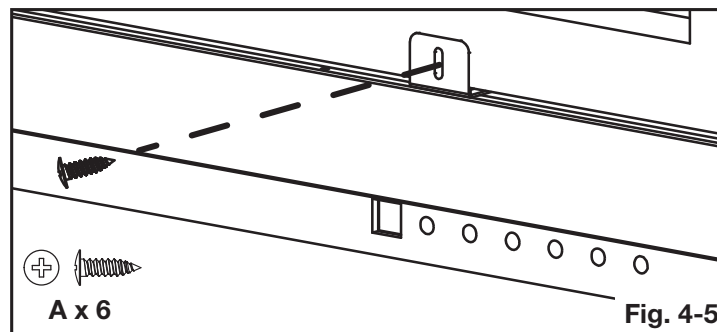

Fig. 4-5
1. Secure the appliance to the rough-in framing by installing 6 screws (supplied) through the metal brackets (Fig. 4-5).